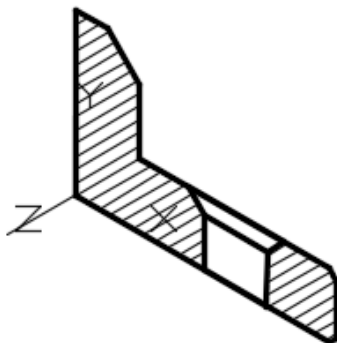

Figure Step 13
Step 13 Set the current UCS to Front, the visual style to 2D Wireframe and set layer: Hatch as the current layer. Using the HATCH command, insert the hatch pattern ANS131. (Figure Step 13)